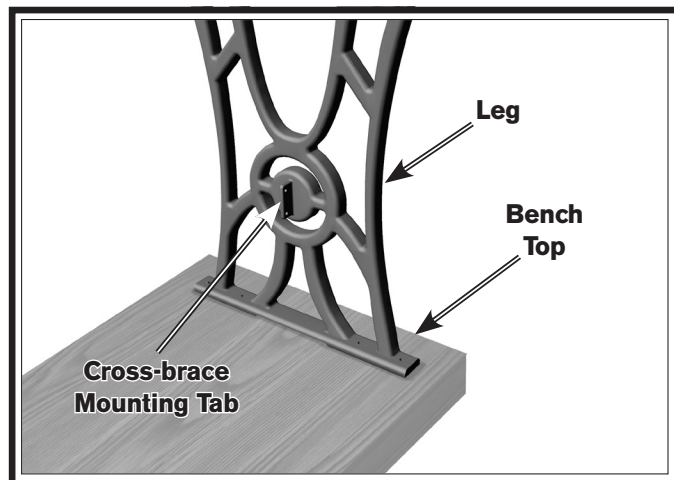

Figure 3. Leg placement.
2. With the help of one or two additional people, place one of the legs upside-down onto the inverted bench top, making sure the cross-brace mounting tab points toward the middle of the bench as shown in **Figure 3**.